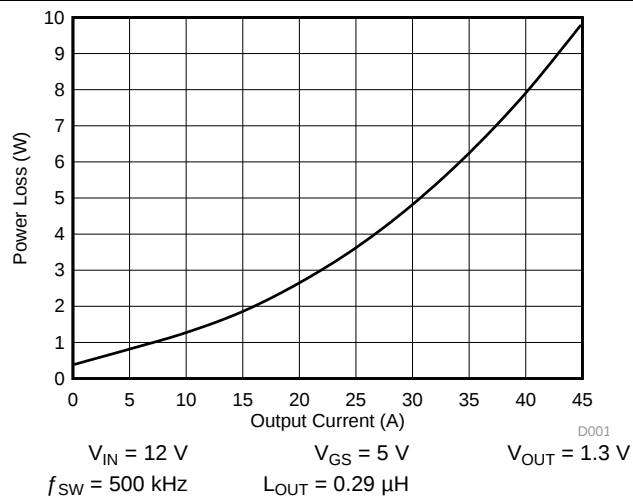
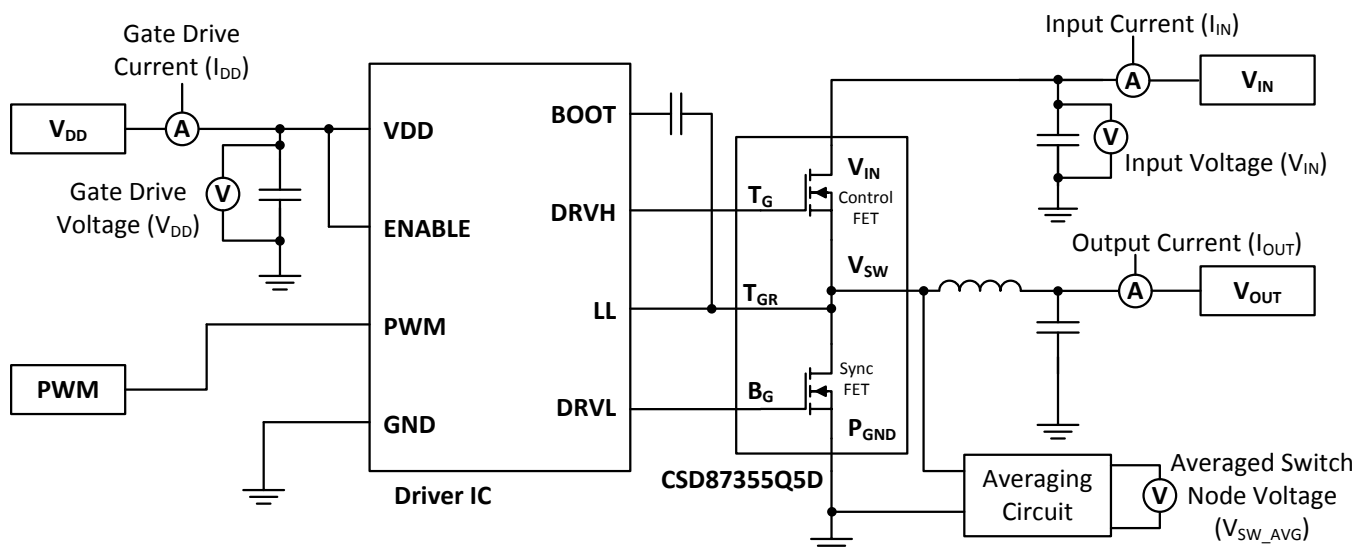

Figure 1. Power Loss vs Output Current
Figure 31.
MOSFET centric parameters such as $R_{DS(ON)}$ and Q_{gd} are needed to estimate the loss generated by the devices. In an effort to simplify the design process for engineers, Texas Instruments has provided measured power loss performance curves. **Figure 1** plots the power loss of the CSD87355Q5D as a function of load current. This curve is measured by configuring and running the CSD87355Q5D as it would be in the final application (see **Figure 31**). The measured power loss is the CSD87355Q5D loss and consists of both input conversion loss and gate drive loss. **Equation 1** is used to generate the power loss curve.
The power loss curve in **Figure 1** is measured at the maximum recommended junction temperatures of 125°C under isothermal test conditions.
- Power Loss at 25 A = 3.62 W (Figure 1)